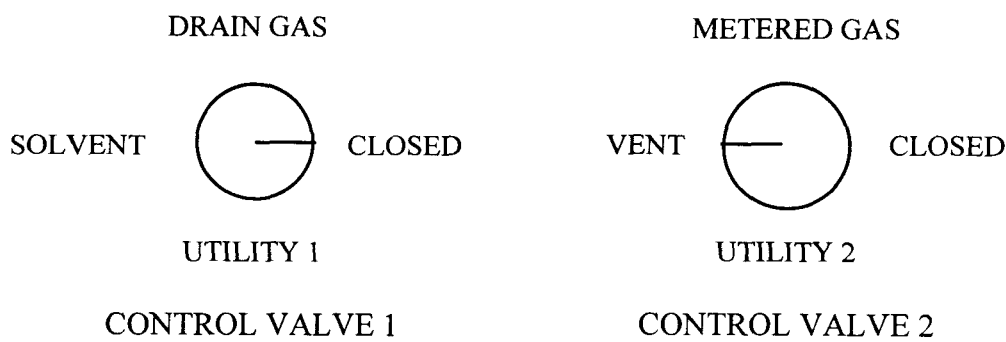

Figure 4-1 Control Valves set to the VENT position
- a. Rotate the Manifold Control Valves as shown in figure 4-1.